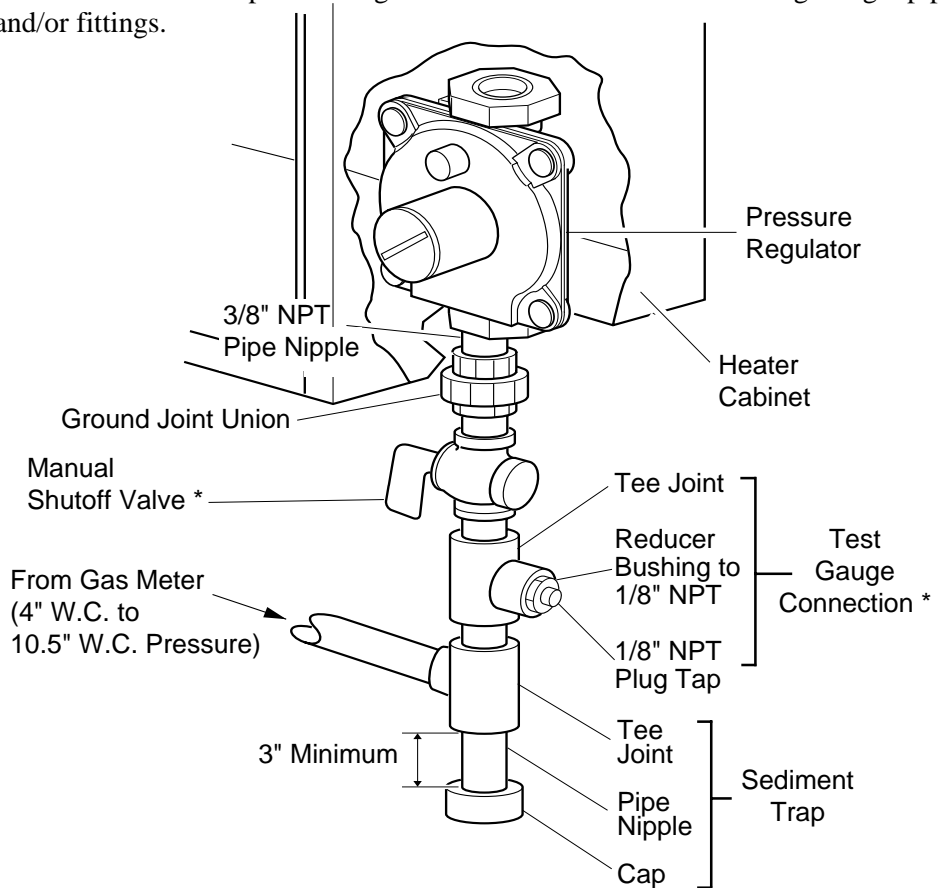

Figure 10 - Gas Connection
- test gauge connection * (see Figure 10, page 10)
Installation must include a manual shutoff valve, ground joint union, and plugged 1/8" NPT tap. Locate NPT tap within reach for test gauge hook up. NPT tap must be upstream from heater (see Figure 10, page 10).
Install sediment trap in supply line as shown in Figure 10. Locate sediment trap where it is within reach for cleaning. Locate sediment trap where trapped matter is not likely to freeze. A sediment trap traps moisture and contaminants. This keeps them from going into heater controls. If sediment trap is not installed or is installed wrong, heater may not run properly.